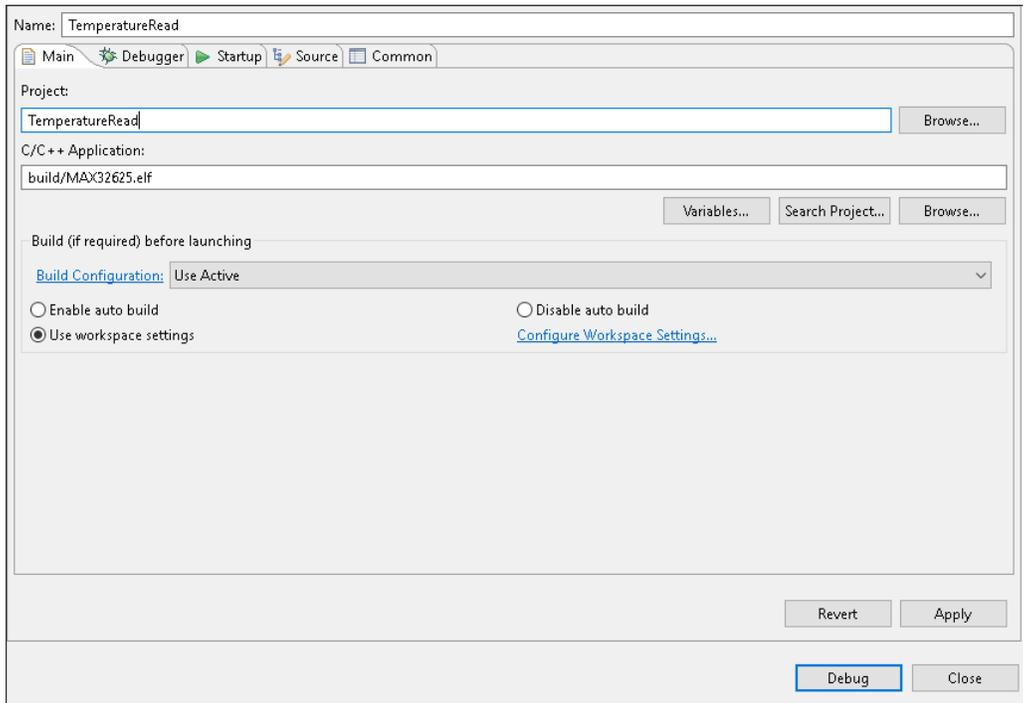

Figure 8. TemperatureRead debug specifications.
3. Select **GDB OpenOCD Debugging > TemperatureRead** in the left navigation panel. The right-hand panel reappears, showing the debug settings specific to the TemperatureRead project, as shown in **Figure 8**.